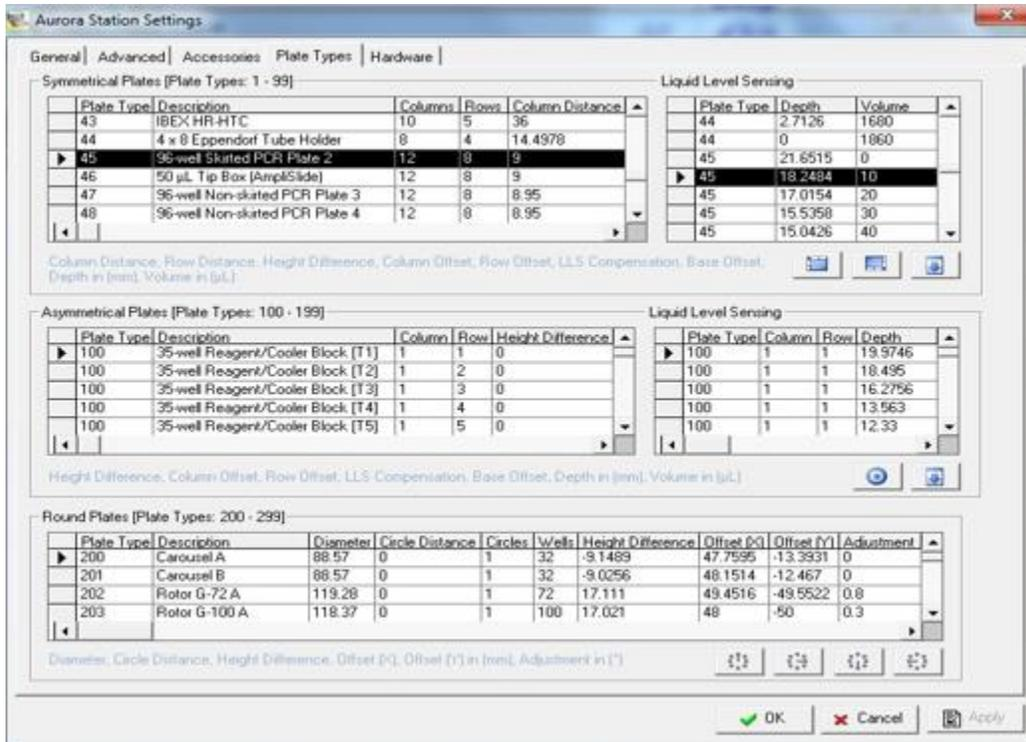

Figure 9-71 Testing LLS Parameters under Aurora Station Settings Plate Types Tab
- Click on the plate type icon in Aurora Station. Focus on the topmost table to test LLS parameters. To achieve this, click on the particular plate type field for test (*Figure 9-71 Testing LLS Parameters under Aurora Station Settings Plate Types Tab*).